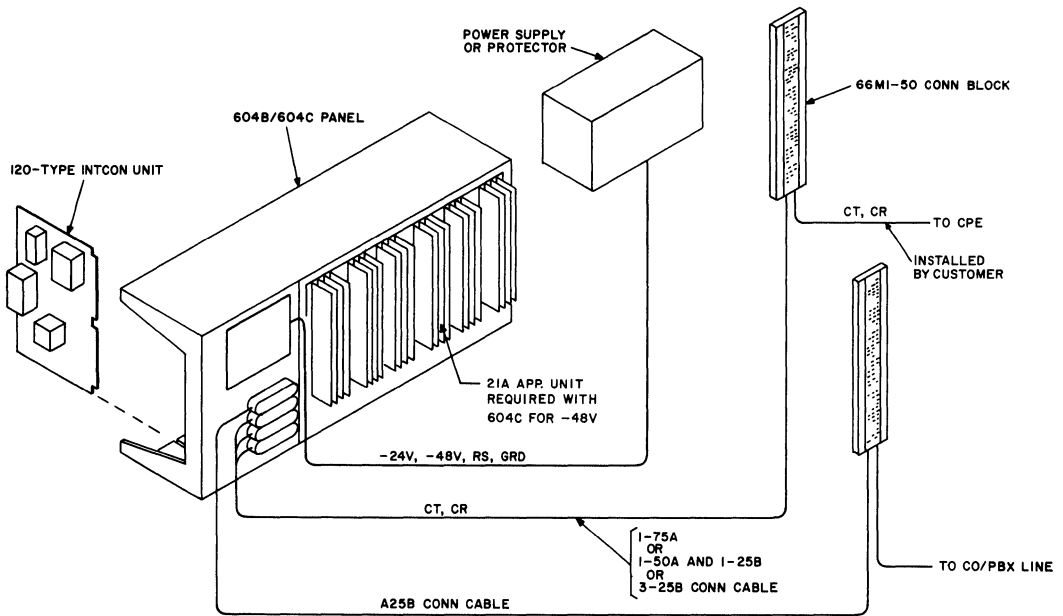

Fig. 3—Block Diagram, PCA STP or C2F Using 604-Type Panel
- Cable, Connecting, A25B—one per 615A panel; one to four per 604C panel (see Fig. 3)
**3.04** All connections, except power supply, are made to the panels through the four plugs on the rear of the panel. The wiring arrangement requires that an A25B connector cable be used in P1 (top plug). Any of the cable combinations shown on Fig. 3 can be used to connect P2, P3, and P4.